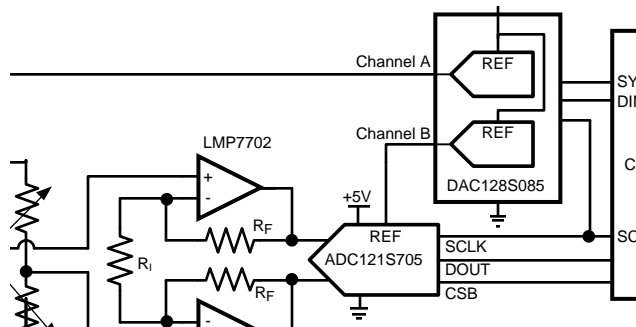

Figure 39. Driving an ADC Reference
**Figure 39** shows Channel A of the DAC128S085 providing the drive or supply voltage for a bridge sensor. By having the sensor supply voltage adjustable, the output of the sensor can be optimized to the input level of the ADC monitoring it. The output of the sensor is amplified by a fixed gain amplifier stage with a differential gain of  $1 + 2 \times (R_F / R_I)$ . The advantage of this amplifier configuration is the high input impedance seen by the output of the bridge sensor. The disadvantage is the poor common-mode rejection ratio (CMRR). The common-mode voltage ( $V_{CM}$ ) of the bridge sensor is half of Channel A's DAC output. The  $V_{CM}$  is amplified by a gain of  $1V/V$  by the amplifier stage and thus becomes the bias voltage for the input of the ADC121S705. Channel B of the DAC128S085 is providing the reference voltage to the ADC121S705. The reference for the ADC121S705 may be set to any voltage from 1V to 5V, providing the widest dynamic range possible.